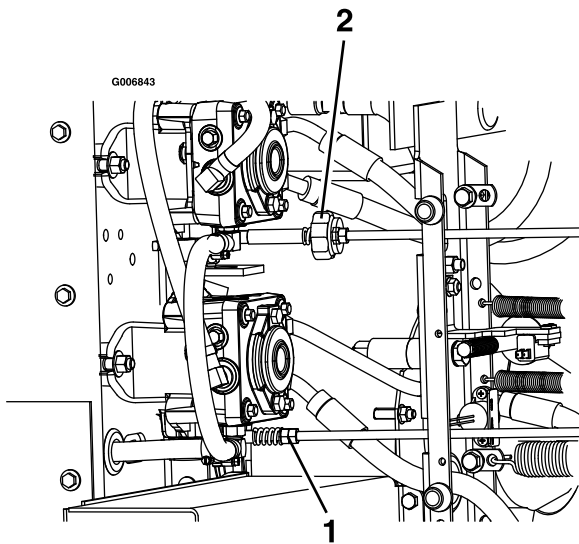

Figure 18
7. Adjust the right pump linkage by using a wrench to turn the double nuts on the assembly (see Figure 18)